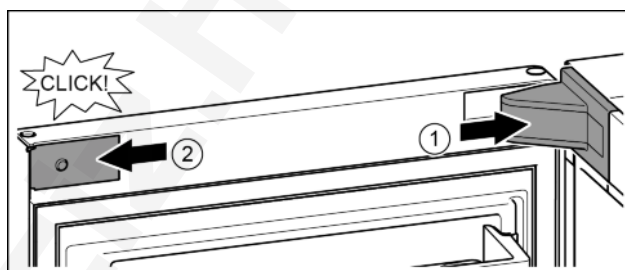

Fig. 17
- Position the bearing bracket and engage. If necessary push apart carefully. Fig. 17 (1)
- Position the panel on the side and click into place. Fig. 17 (2)